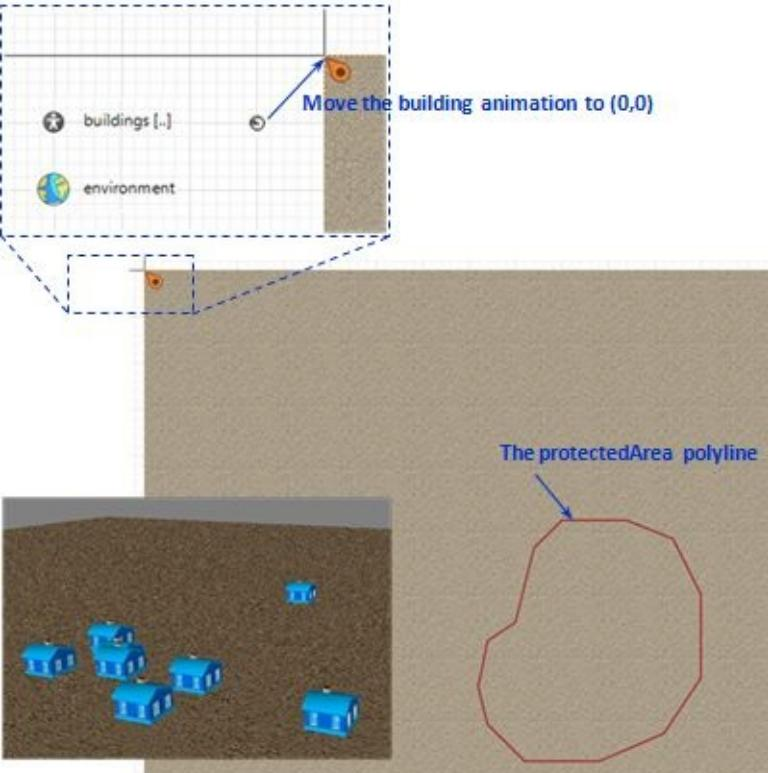

Figure 3.26 The scene of the Air Defense System model
9. Draw a closed polyline on top of the ground rectangle, as shown in Figure 3.26. Name it *protectedArea*. Our buildings will be located within its bounds.
12. On the second page of the wizard, choose the **Continuous3D Space type** for the environment. Press **Finish**. The wizard creates a new environment object, a population of buildings, and places the animation of the building nearby, see Figure 3.26.